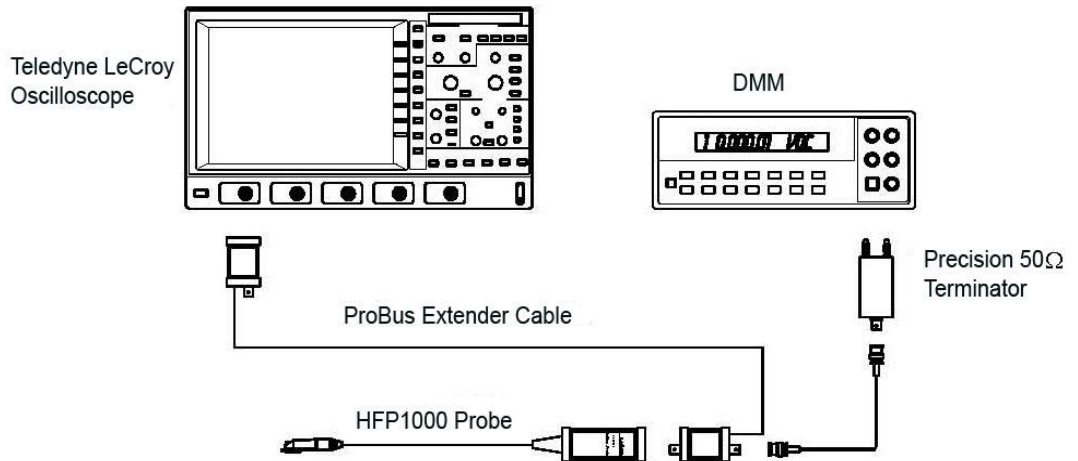

Figure 6 Output Zero Voltage Adjustment Setup
2. Connect the banana plugs of the precision 50 Ω terminator to the input of the DMM. Make sure the plug corresponding to the BNC shield (marked 'Ground') is connected to the LO or COMMON input of the DMM. Refer to Figure 6 **Output Zero Voltage Adjustment Setup** for setup information.